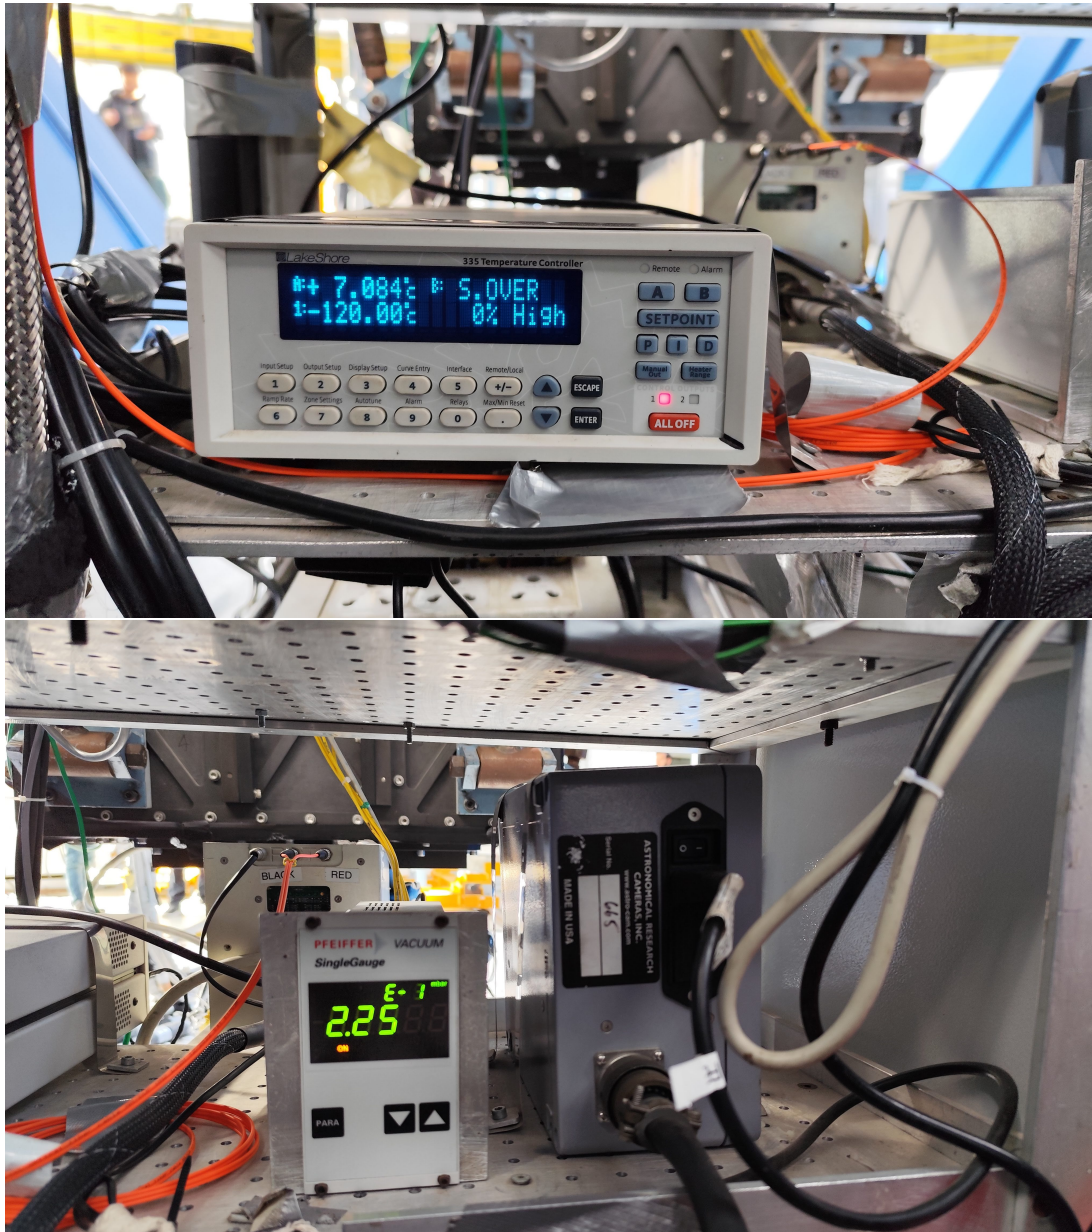

Figure 1: The temperature and pressure of the CCD can be checked from here.
6. Check the CCD temperature, it should be at room temperature (above 5 °C) as shown in Fig. 1.